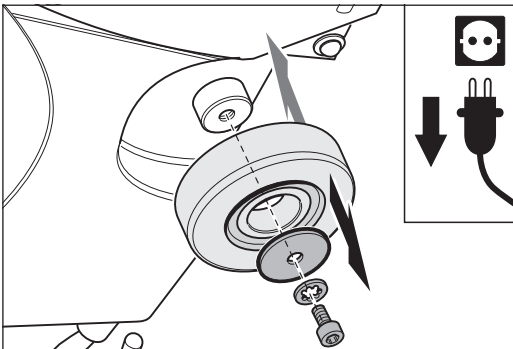
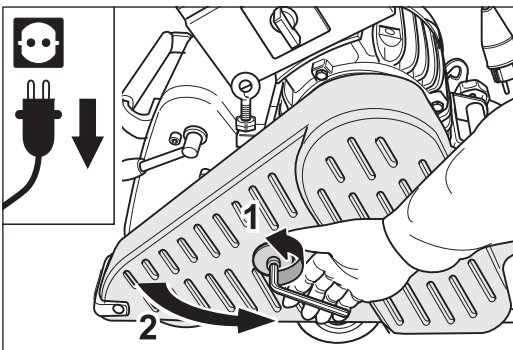

Fig. 100 **Remove the screw and washers in the center of the wheel and remove the lateral wheel. Assemble the new wheel in reverse sequence.**
Fig. 101 **Pull the power plug out of the socket and open the belt guard.**
- 4 Release the screw in the center of the wheel and remove the screw and washers (fig. 100). Before removing the **left** lateral wheel open the belt guard (fig. 101).
- 3 Open the belt guard (fig. 101).